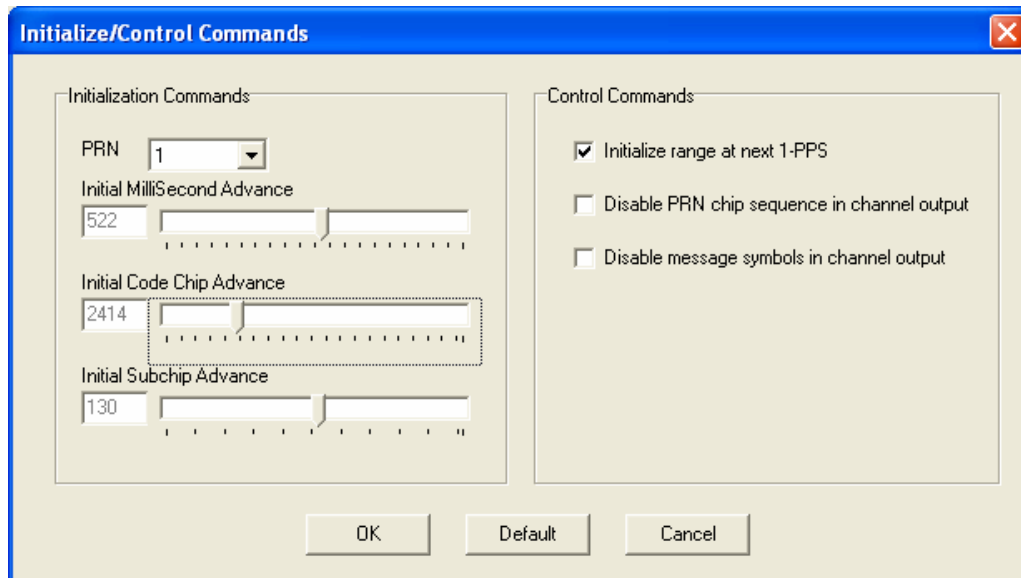

Figure 14: Initialize/Control Commands
1. Click on the *Options* button of the L1 window. The window shown in *Figure 14* appears.